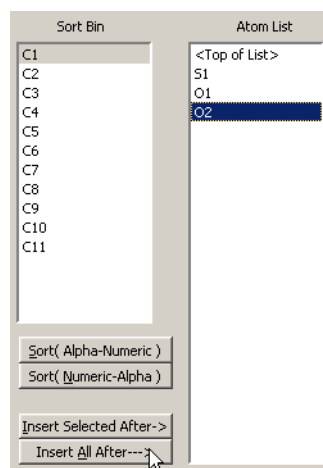

Figure 9.34 - Sorted atoms with "insert after" atom (O2) selected.
4. Highlight O2 and click on Insert All After as in Figure 9.34.